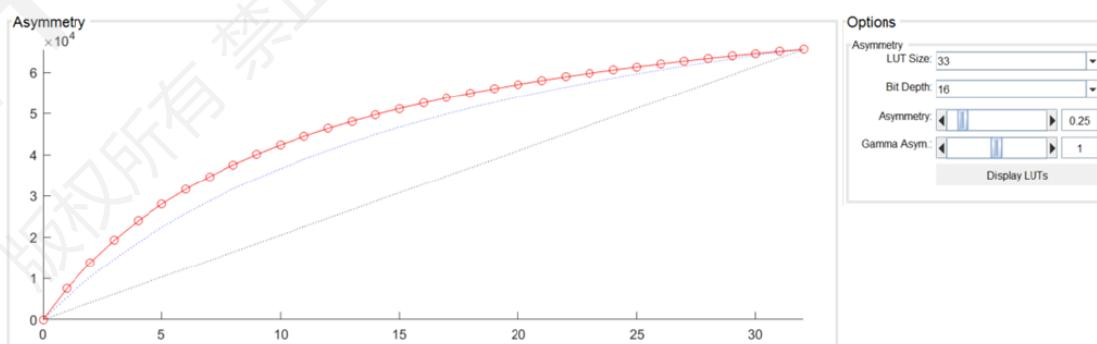

Figure 3.14-5 Iridix GUI.
1. Generation of the asymmetry LUT (Iridix_LUT_Asymmetry) can be done in two ways, the simplest being to use Calibration Tool where a GUI similar to Figure 3.14-5 is presented, allowing easy modification of the generated curve.